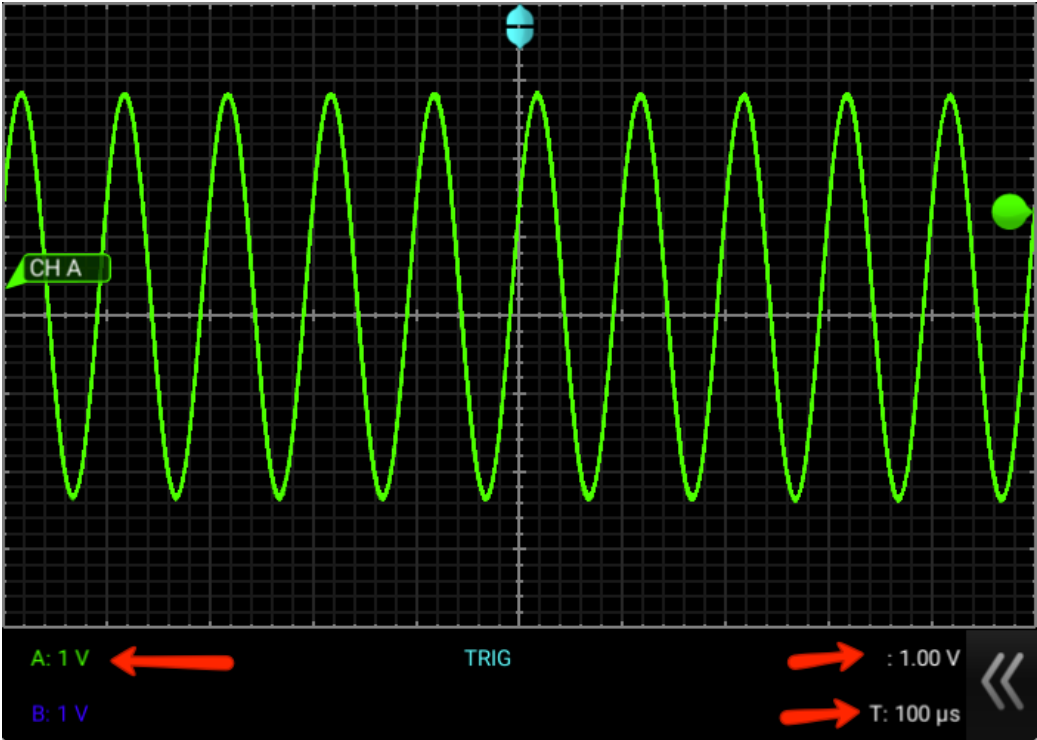

Figure 7: Example of a 5V, 10kHz waveform displayed in the iMSO software.
3. Once the entire waveform is visible you can slide the tool bar off of the screen and view the time base and amplitude setting for your recording Figure 7.